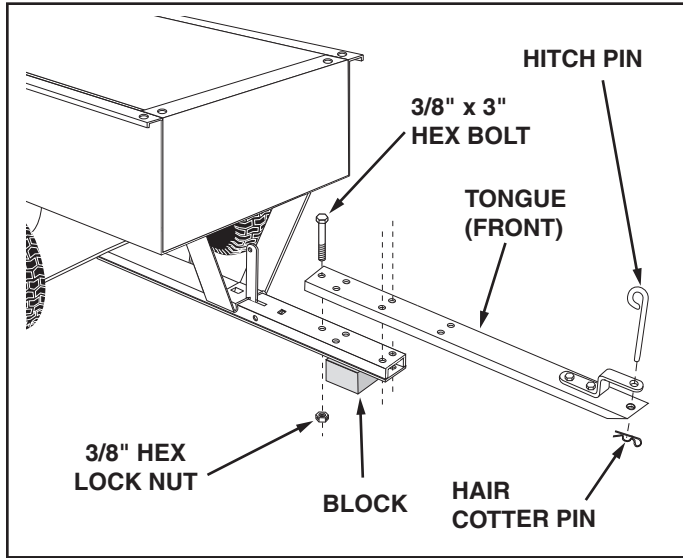

FIGURE 12
20. Assemble the front tongue on top of the rear tongue using three 3/8" x 3" hex bolts and 3/8" hex lock nuts. See figure 12.
21. Assemble the hitch pin to the hitch bracket and tongue, securing it with the hair cotter pin. See figure 12.